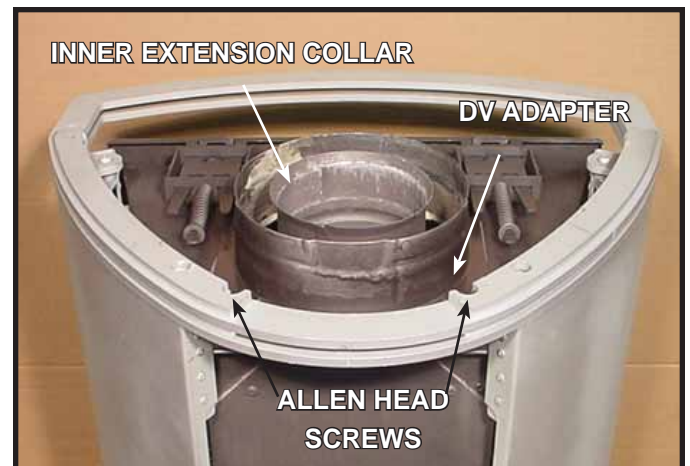

Figure 8.7
4. Remove the inner extension collar (Shown in **Figure 8.7**) and set aside.
5. Remove the four screws from the DV adapter collar (**Figure 8.7**). Set aside DV adapter collar and screws.